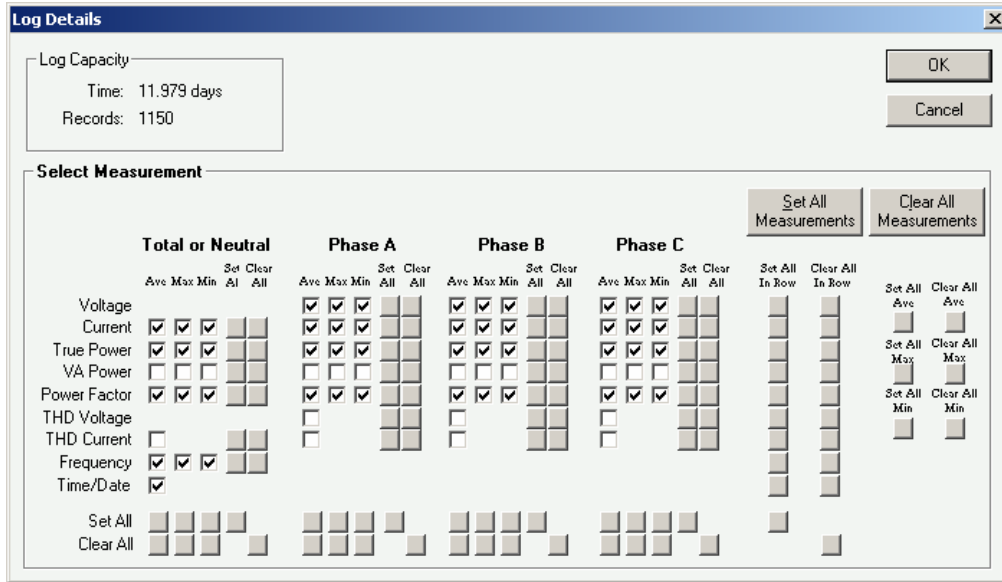

Figure 4: Selected Measurements screen.
2. Click on the *Choose Measurement Types* button. Select and deselect the desired measurement parameters by clicking in the corresponding check boxes. (figure 4) The *Set All* and *Clear All* buttons can be used to set and clear an entire row or column at once. Click *OK*.